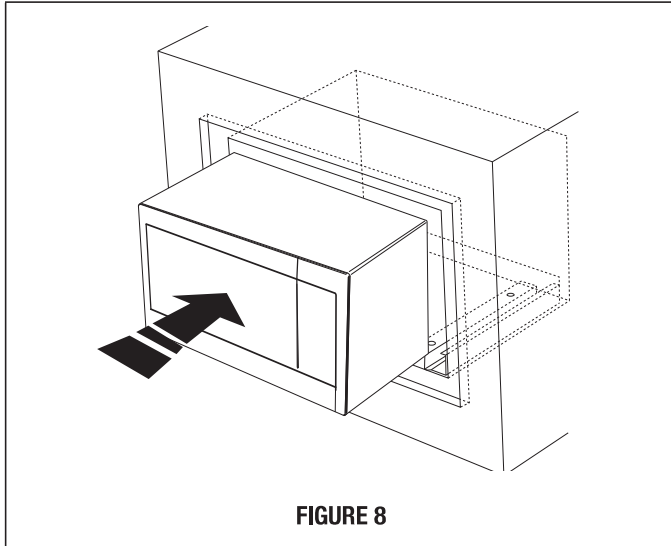
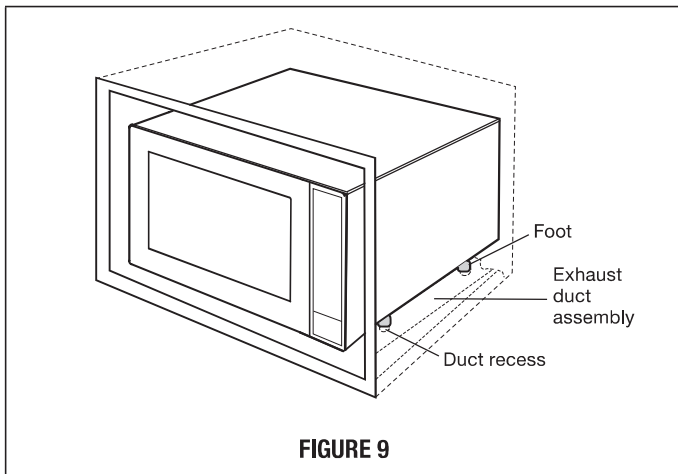

FIGURE 8
FIGURE 9
C. CABINET INSTALLATION: Avoid pinching the cord between the oven and the wall. Adjust the position of the oven so that the feet of the oven are fitted into the holes of the BOTTOM DUCT ASSEMBLY. See Figure 8.
D. DISASSEMBLY: The FRONT FRAME and BACK FRAME come pre-assembled with ball studs engaged in the receivers. Separate the FRONT FRAME from the BACK FRAME. Place the assembly facedown on a protected surface. At the location of the ball stud, insert a flathead screwdriver between the FRONT FRAME and the BACK FRAME and gently pry up to disengage the ball stud from the receiver. Repeat for each corner. See Figure 9.
- B. Carefully guide the assembled oven into the prepared opening. Slide the oven onto the Exhaust Duct Assembly. See Figure 8. Avoid pinching the cord between the oven and the wall. Adjust the position of the oven so that the feet of the oven are fitted into the recesses of the Exhaust Duct Assembly and the door opens properly. See Figure 9.